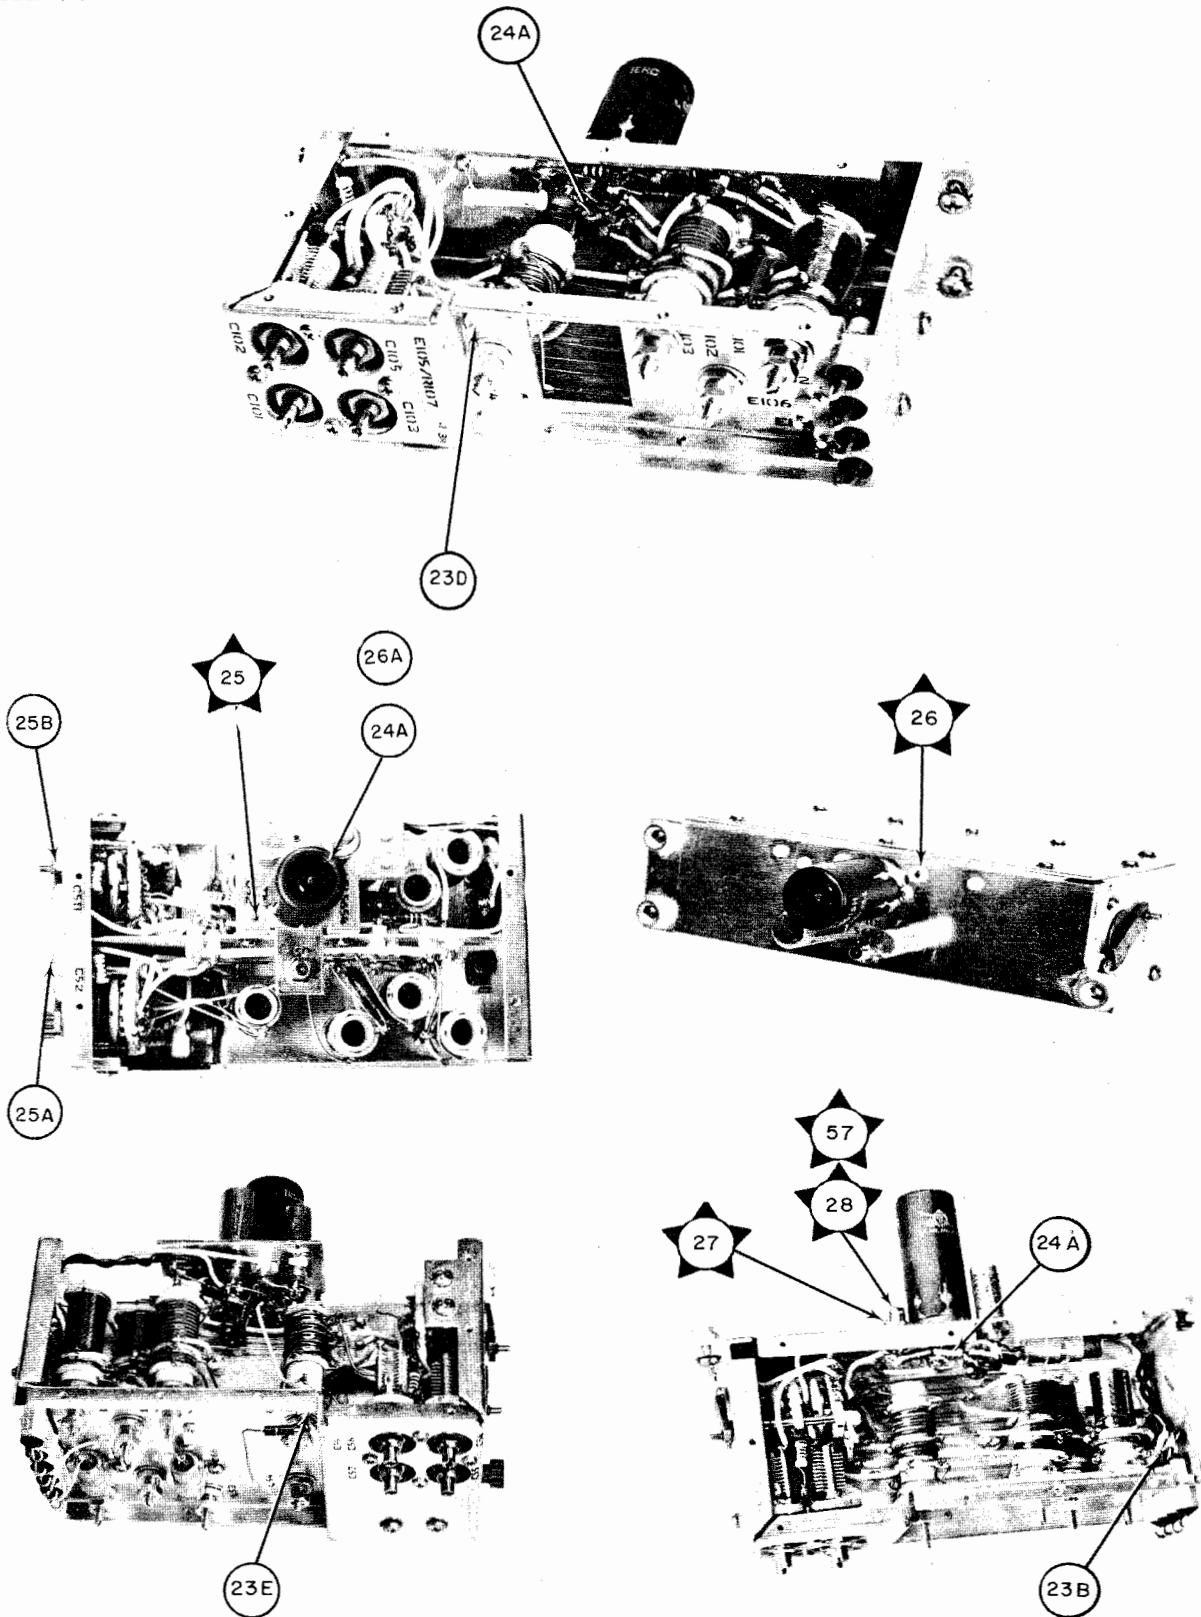

Figure 5-13. Preselector, Location of Test Points
f. PRESELECTOR TROUBLE-SHOOTING CHART.—Trouble-shooting the preselector consists of measuring the initial supply voltages and tracing signals through the circuits. Table 5-8 is the trouble-shooting chart for the preselector. Figure 5-13 shows the location of test points. Table 5-9 gives voltage and resistance measurements. Follow the steps of table 5-8 in the order shown and compare the results with those in the NORMAL INDICATION column. If an indication is abnormal, follow the instructions given in the NEXT STEP column.